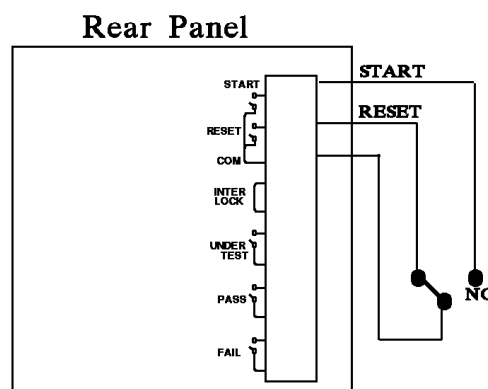

Figure 2
- If it is connected as Figure 2 shows, the system routine is in RESET state as the NC is connected to RESET and NO is connected to START.